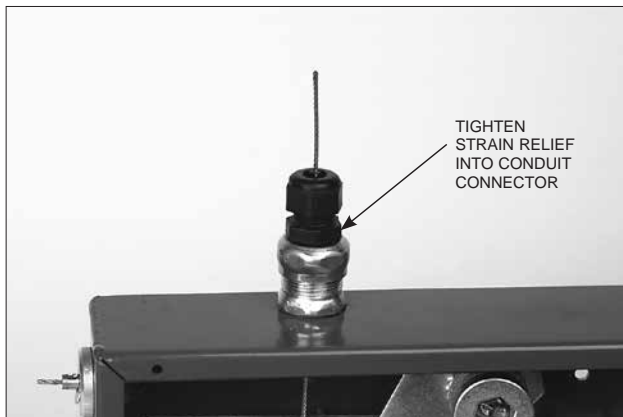

FIGURE 4-45
7. Tighten the body of the strain relief to the conduit connector. See Figure 4-45.